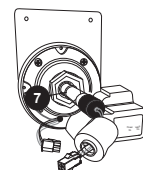

Figure 4
4. Slowly remove the UV bulb (7) out of the quartz tube, Figure 4.